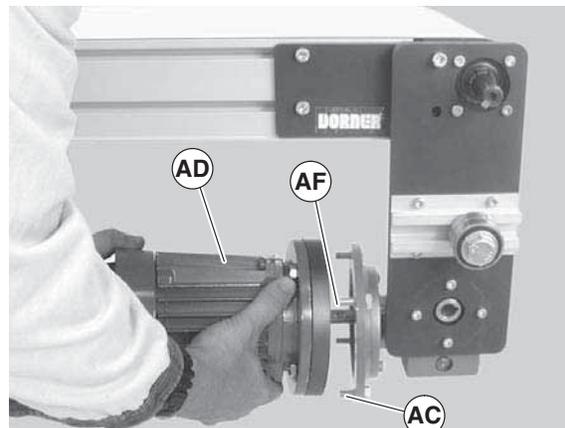

Figure 26
5. With key (Figure 26, item AF) in keyway, slide motor (AD) and gear reducer together. Install screws (AC) and tighten.